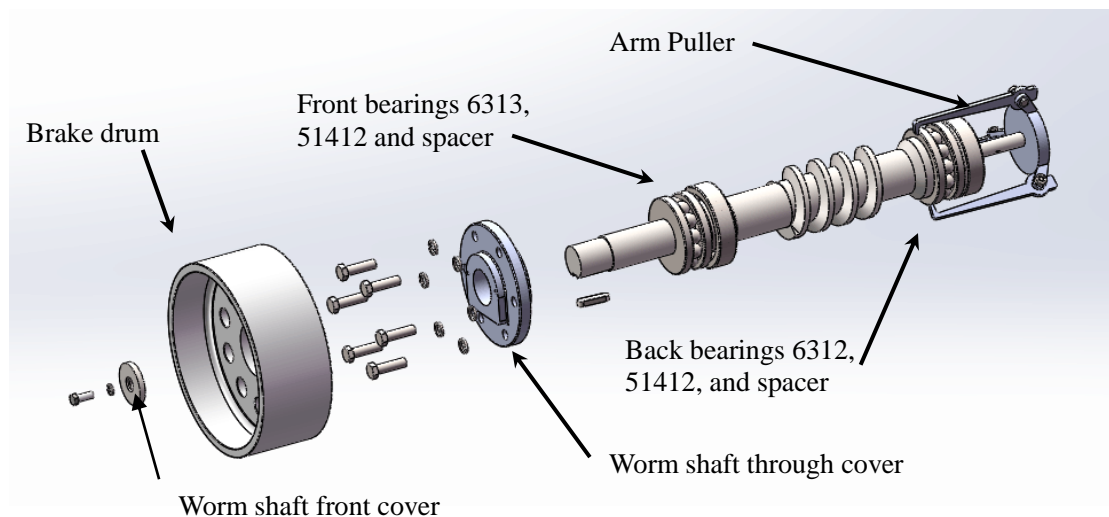

Figure 45 Worm Shaft Bearing replacement
5. Remove the Bolt (M12x35) and the washer (12) which secures the worm shaft front cover using the open end wrench (or socket) (18mm), and remove the worm shaft front cover. See Figure 45.
7. Remove the six Bolts (M16x50) and the washer (16) which secure the worm shaft through cover using an open end wrench (24mm); remove the worm shaft through cover assembly.
8. Remove the six Bolts (M16x50) and the washer (16) from the worm shaft back cover assembly; remove it.